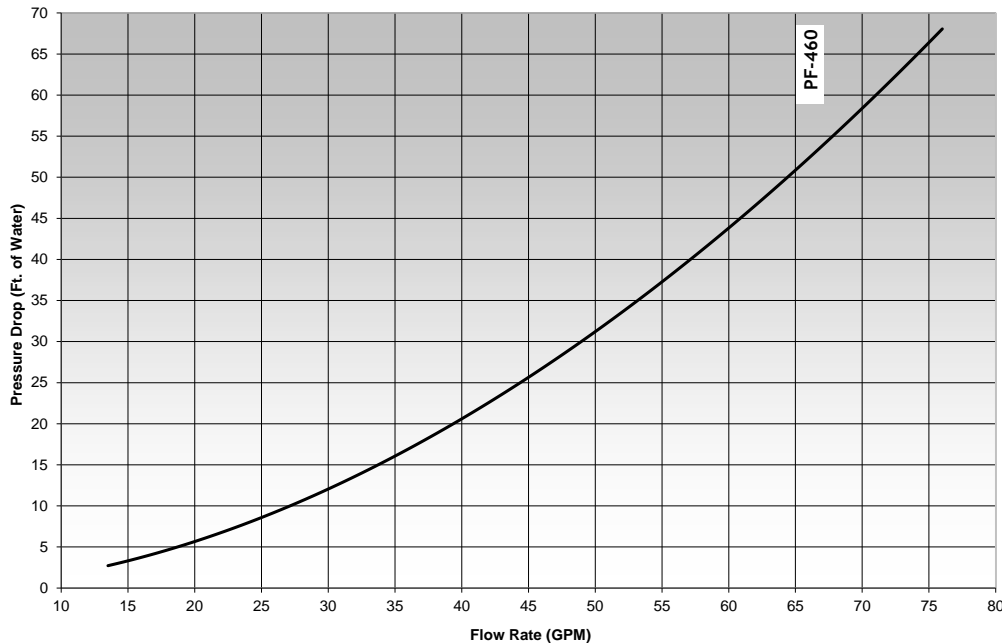

Figure 4.3: PUREFIRE® Circulator Sizing Graph (General Pump – Primary/Secondary)
- d. The boiler pressure drop for various flow rates can be determined using Figure 4.3, the PUREFIRE® Boiler Circulator Sizing Graph.